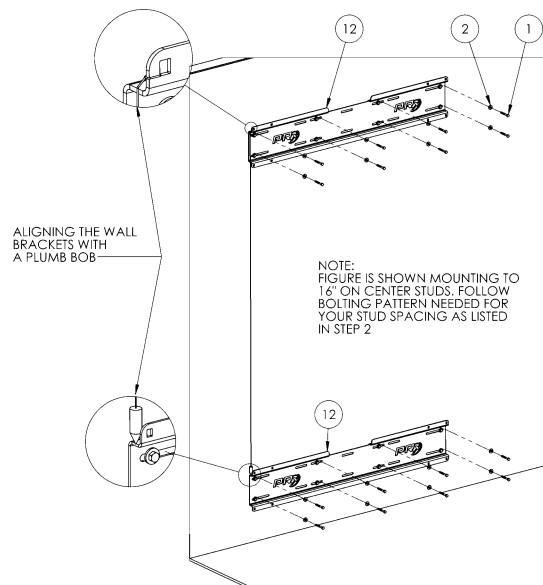

Figure 2: Installing the lag screws
5. Using the 1/2" socket and the impact driver, install the upper wall bracket (12) with a 5/16" lag screw (1) and 5/16" flat washer (2) through the top hole of the wall bracket that is flush to the wall. Do not fully tighten the lag screw.
8. Install the second 5/16" lag screw (1) and 5/16" flat washer (2) through the top hole of the wall bracket. Do not fully tighten the lag screws.
10. Drill pilot holes and install the rest of the upper wall bracket lag screws into the marked studs **(Figure 2)**.
13. Drill pilot holes and install the rest of the lower wall bracket lag screws into the marked studs **(Figure 2)**.